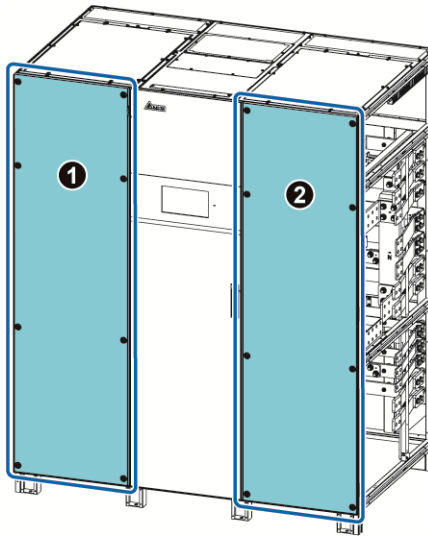
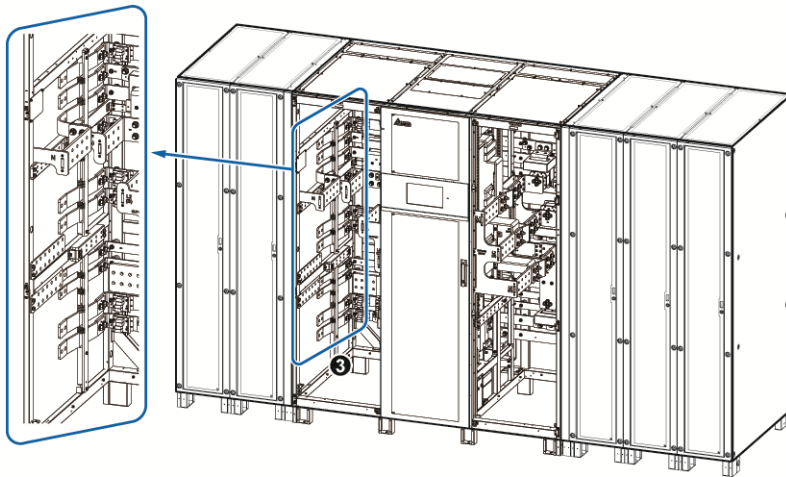

Figure 5-10: 1250kVA UPS _ Remove the Sixteen Screws to Open the Two Front Doors
Figure 5-11: 1250kVA UPS_ Fasten the Screws on the Bus Bars
Unscrew the sixteen screws to remove the left and right front doors (❶ & ❷) as shown in *Figure 5-10*. Use the provided forty-eight M12 screws to connect the provided seventeen bus bars (❸) on the right and left sides (see *Figure 5-11*). Twenty screws are used on the left side and twenty-six on the right. After the above connection is completed, fasten two screws on the soft copper bus bars at the right and left corners between the UPS system cabinet and power module as shown in *Figure 5-12*.